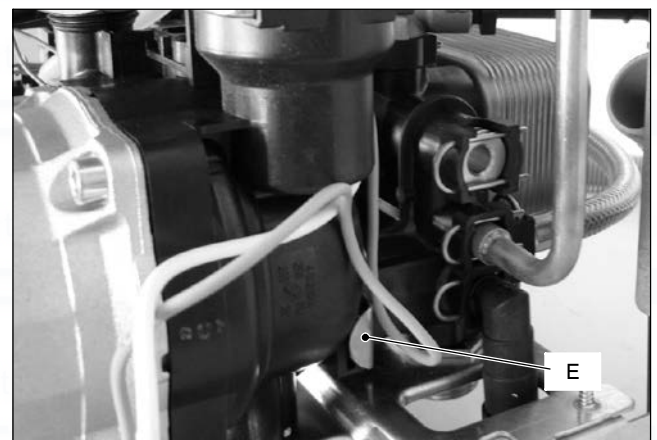

Fig. 20
With the boiler off, remove the front panel and disconnect the connector B (Fig. 20).
- 6 Remove the locking plate E (Fig. 20).